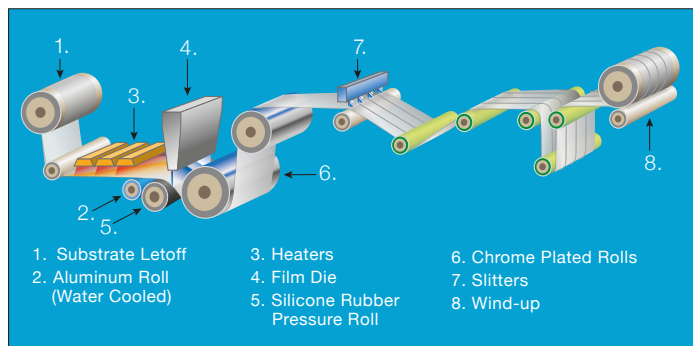

Figure 5: Extrusion Coating Line
**Procedure:** The extrusion-coating process is illustrated in **Figure 5**. TPU pellets are compacted and fluxed in the extruder barrel (not shown but perpendicular to the place of the paper). The molten material is forced through a slit due downward between two rolls. The substrate is fed into the system between the molten plastic and the rubber pressure roll where the two materials are joined by controlled pressure between the rolls. The product is cooled by passing around the temperature-controlled metal rolls and then trimmed and wound on film wind-up equipment.
**Pressure Roll:** The uncoated substrate is led over the pressure roll where it meets the hot melt cascade flowing downward from the die. The pressure roll, activated by a pair of pneumatic or hydraulically loaded air cylinders, forces the substrate and the hot melt together in the roll nip as in **Figure 5**.